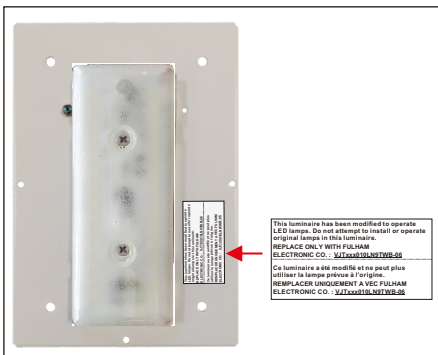

Figure 5
5. Place the provided Retrofit Label (C) on the luminaire back plate in a readily visible location to anyone attempting to service the luminaire. See Figure 5.